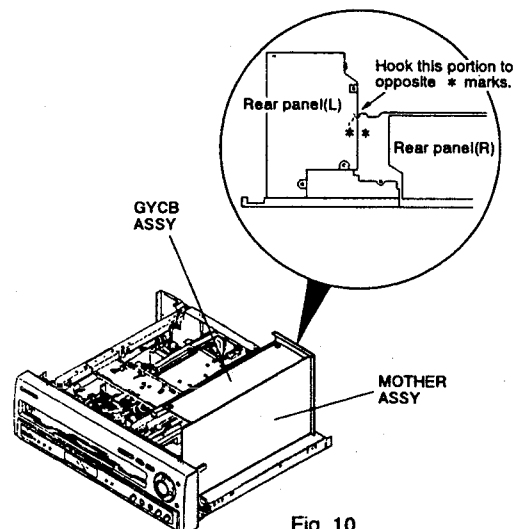

Fig. 10
5. While pulling up the rear panel (L) toward the rear, MOTHER assy will be removed with the rear panel (L). Then MOTHER assy can be diagnosed by standing it as shown in Fig. 10.